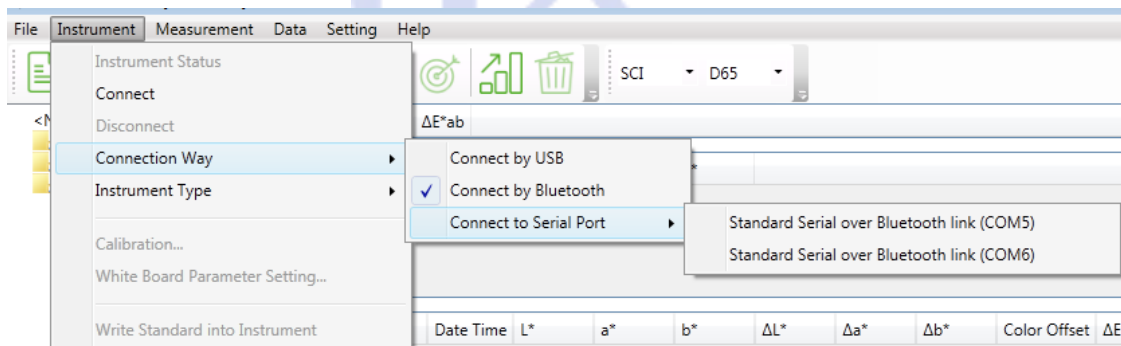

Figure 18 Connect to the Bluetooth port on the serial port under "Connect to Serial Port" menu
- ✓ After the addition is complete, the instrument's Bluetooth device will be mapped to a serial device, then in the SQCX "Instrument" menu under the "Connect to Serial Port" to select the corresponding serial port (Figure 18). The instrument's Bluetooth device is mapped to two or three serial ports, and only one can be connected, try to connect one by one.